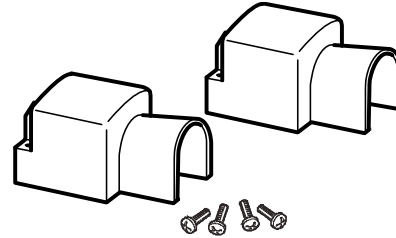

Figure 8 DC Terminal Covers
10. To protect the DC terminals, attach the DC terminal covers (Figure 8) to the inverter/charger, using the screws provided.